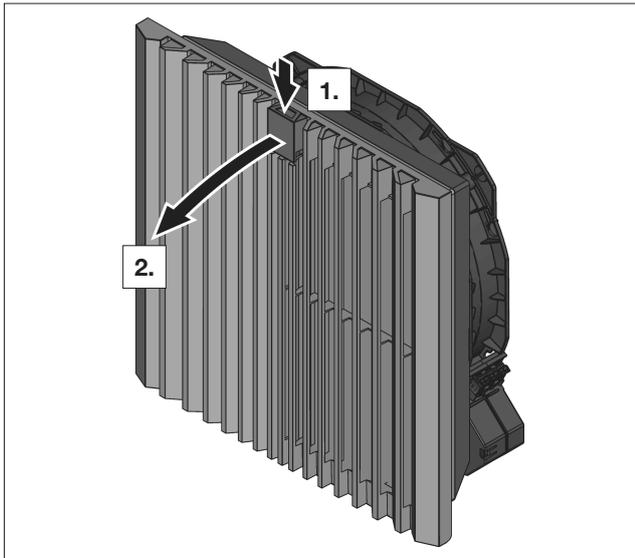

Fig. 22: Unlocking the louvred grille
- To unlock the louvred grille, press the function logo from above (see fig. 22).